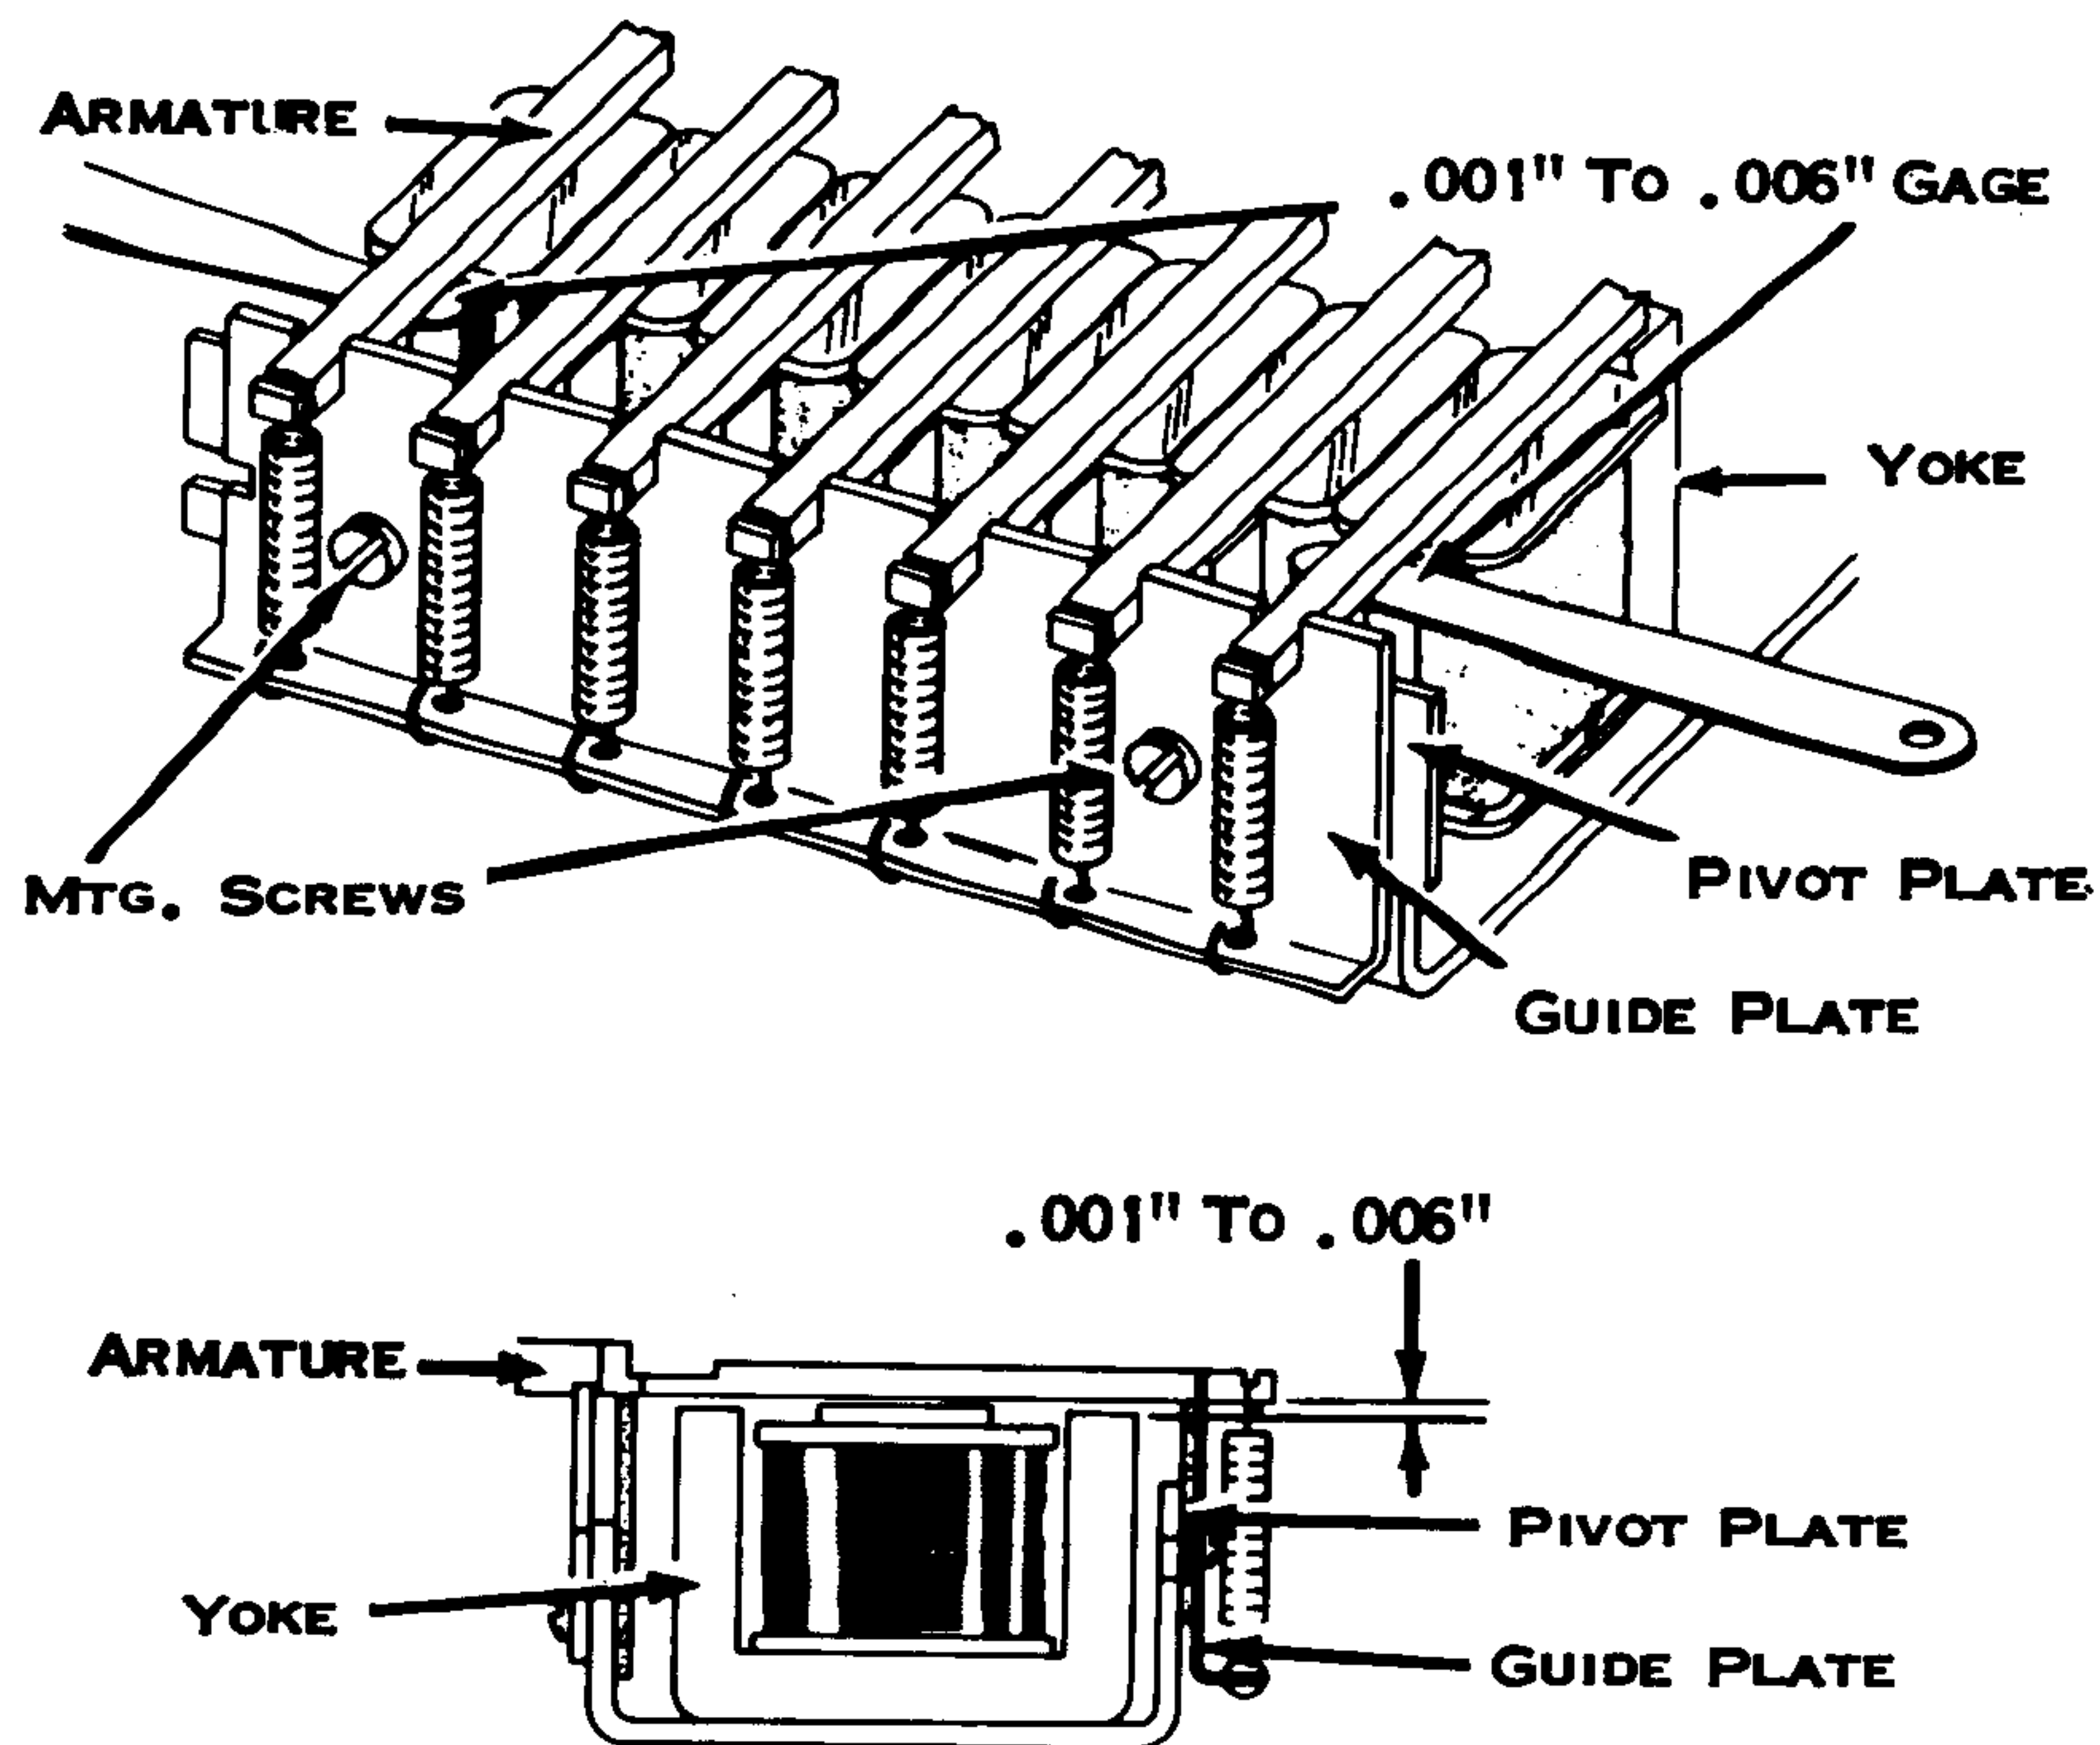

Figure 20. Pivot Plate
1. Pivot Plate (Fig. 20) - Adjust for a clearance of .001" to .006" between the yoke and armatures with the armatures manually attracted. Measure clearances at the outside armatures (T2 & R5).
2. Guide Plate (Fig. 20) - Position as follows: